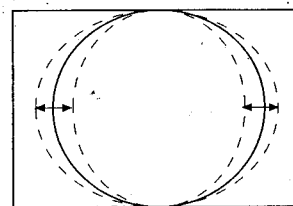

Fig. 1
- Adjust the horizontal amplitude to obtain 9% overscan (fig. 1).